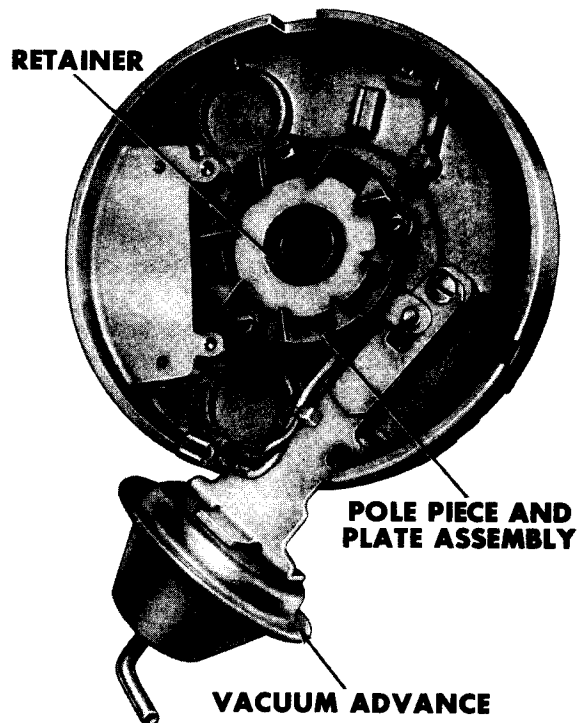

Figure 28—Pole Piece and Plate Assembly
10. Remove pole piece and plate assembly from housing. Do not remove three securing screws (figure 28).
NOTE: If necessary to adjust for proper clearance, loosen three screws on pole piece and plate assembly. Move pole piece teeth to provide even clearance. Tighten three screws (figure 28).